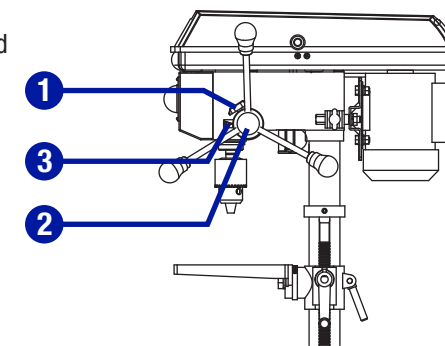

Fig. 19
**DRILLING DEPTH (Fig. 19)**
- To stop the drill at a specific depth for consistent and repetitive drilling, loosen the depth scale lock (1) located on the depth scale hub (2).
- Turn the hub until the pointer (3) is aligned to the desired depth on the scale.
- Tighten the depth scale lock (1). The chuck will stop after traveling downward to the distance selected.